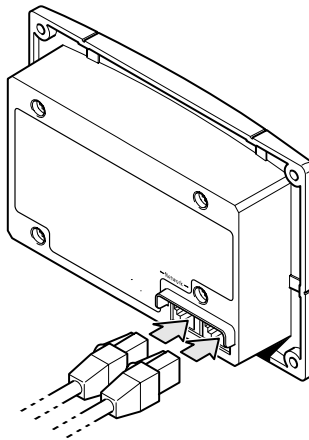

Figure 2-9 Connecting the network cables
5. Connect the Xanbus cable(s) (and terminator if necessary) to either network input on the back of the System Control Panel. See Figure 2-9. Connect a network terminator to the System Control Panel if it is the last device at the end of a daisy chain network layout.
4. Connect the Xanbus cable(s) (and terminator if necessary) to either network input on the back of the System Control Panel. See Figure 2-9.